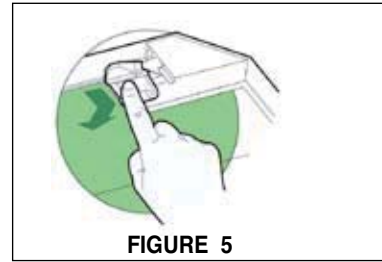

FIGURE 5
5. Install the charcoal filters (**sold separately**) above the perimetric comfort panel and the grease filter, see (**FIGURE 5**) for installation. Pull down the comfort panel, remove the grease filter and position the charcoal filter with the pull tabs facing out and forward, then snap into place. Place the grease filter back into place and close the comfort panel.